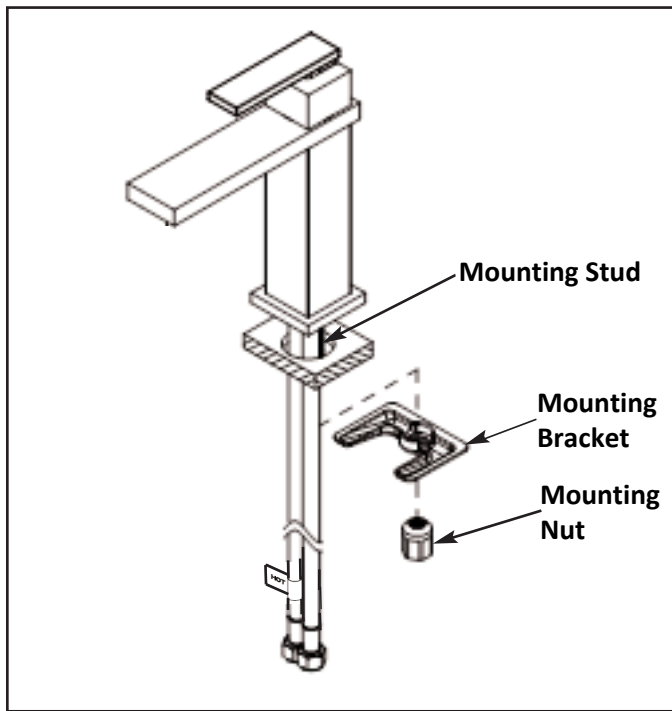

Figure 1
1. Insert hoses through deck hole one at a time, and secure spout into place with MOUNTING STUD, MOUNTING BRACKET and MOUNTING NUT. **See Figure 1.**